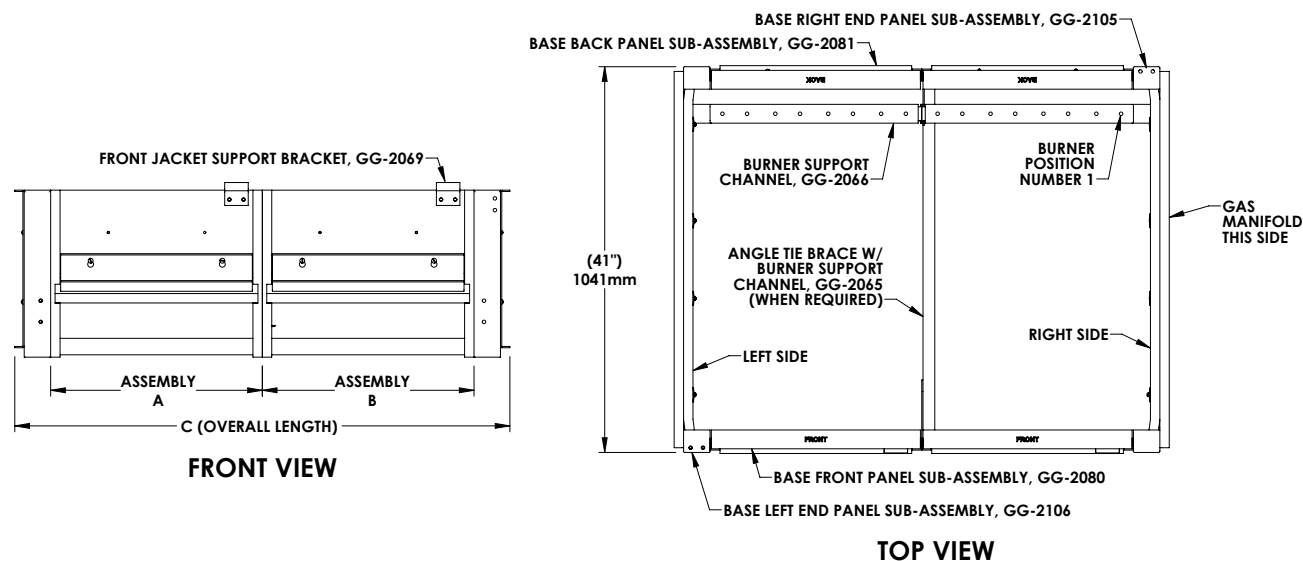

Figure 2.1: Boiler Base Assembly
7. Bolt remaining Front and Back Panels together using 5/16"-18 x 1" (25 mm) long cap screws and hex head nuts. See Table 2.2 for panels required. Place the panels in the positions shown in the Table 2.2 and Figure 2.1.
9. Set the Burner Support Channels in place as shown in Figure 2.1.
Table 2.3: Burner Cartons and Pilot Burner Locations (See Figure 2.1)